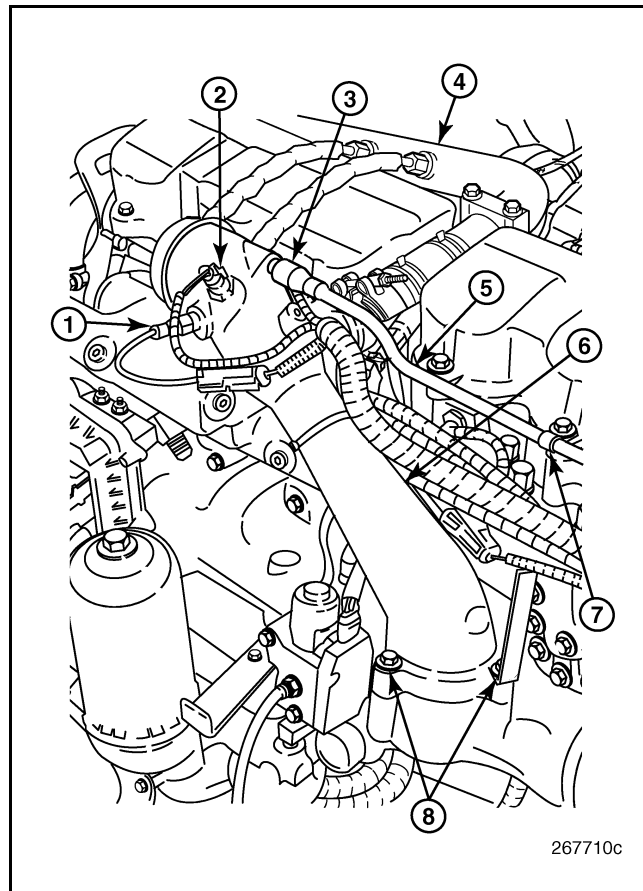

Figure 141 — EGR Gas Mixer Tube, Installed
3. Remove the capscrews attaching the mixer tube to the inlet manifold (Figure 141) and remove the tube.